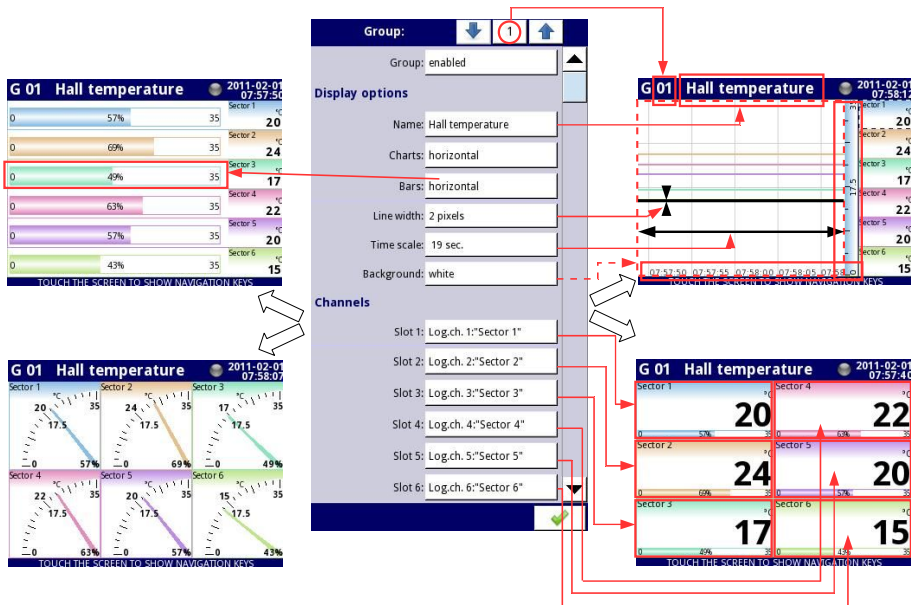
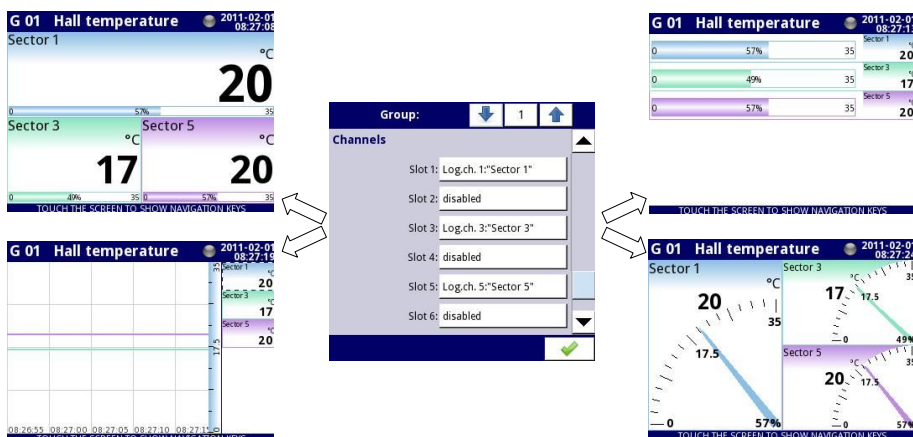

Fig. 7.119. Sample of **Group** parameters settings - all Slot set to **Logical channel**
Fig. 7.121. Sample of **Group** parameters settings - Slots set to **Logical channel** and set to **disabled**
- **Slot 1÷6** - in each slot user can select a option (see Fig. 7.119÷Fig. 7.121):